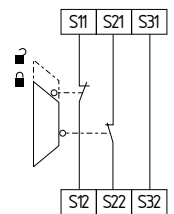

Fig. 13
**Dual-channel guard door monitoring circuit with interlocking device to ISO 14119 (see Fig. 13)**